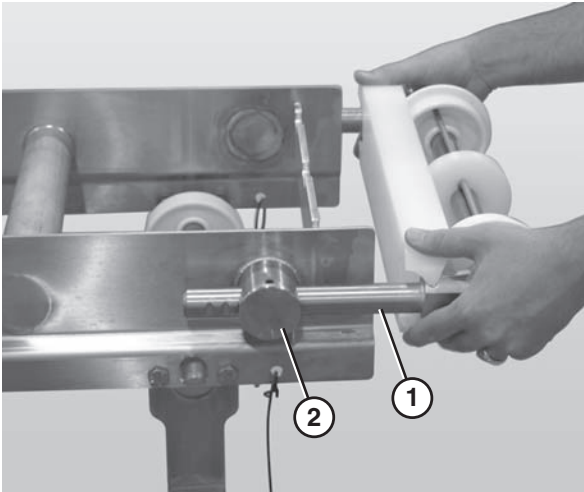

Figure 76
2. Slide the idler tail assembly (**Figure 76, item 1**) out of the take up blocks (**Figure 76, item 2**).